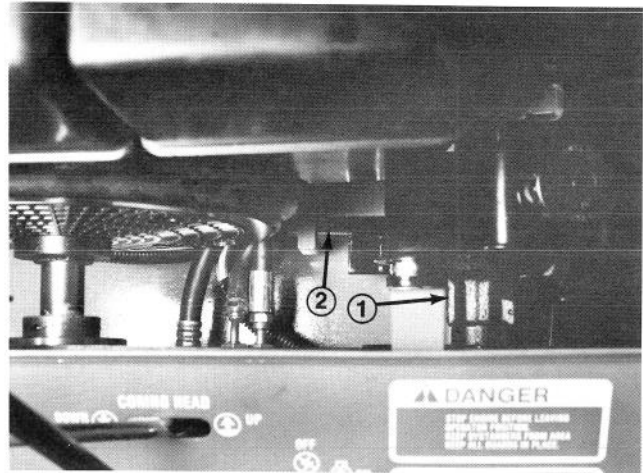

Figure 38
- B. To adjust tension, loosen (2) capscrews securing pump support bracket to chassis (Fig. 38).